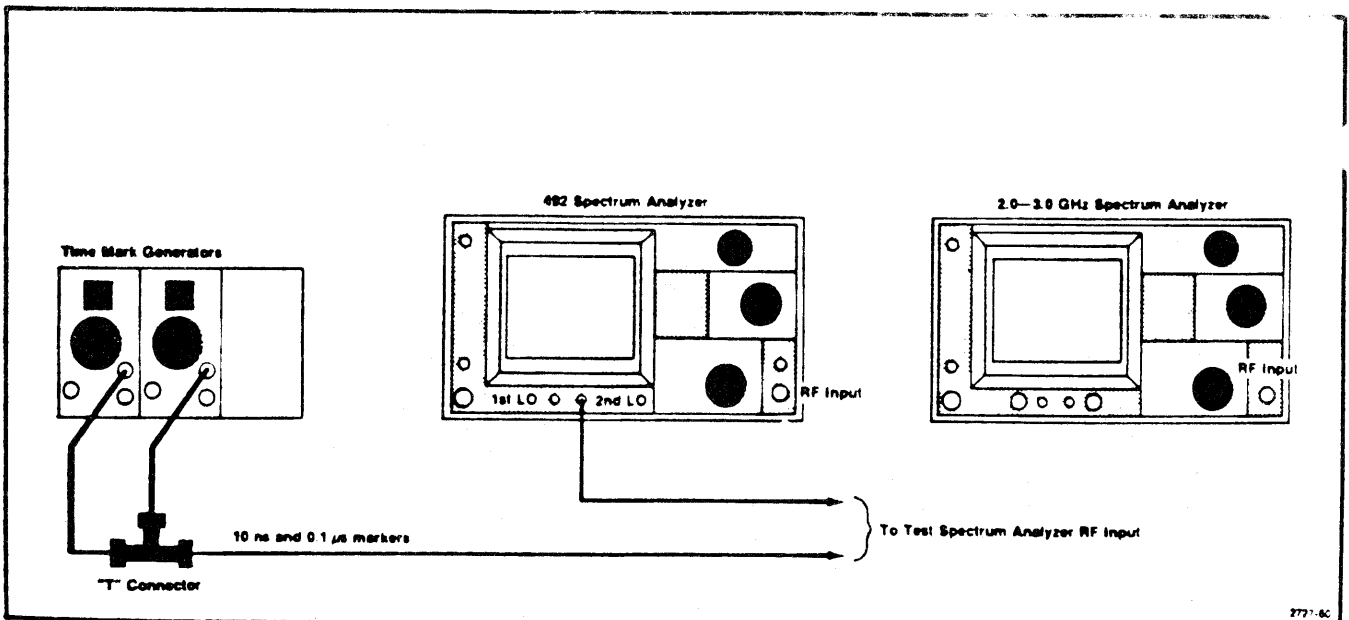

Fig. 3-32. Test equipment setup for check and adjustment of 1st and 2nd LO frequency.
- A. Test equipment setup is shown in Fig. 3-32. Apply 10ns and 0.1 μ s markers from the time mark generator to the Input of the test spectrum analyzer (frequency range 2.0GHz to 3.0GHz). This should produce accurate frequency markers every 10MHz around a center frequency of 2.2GHz.